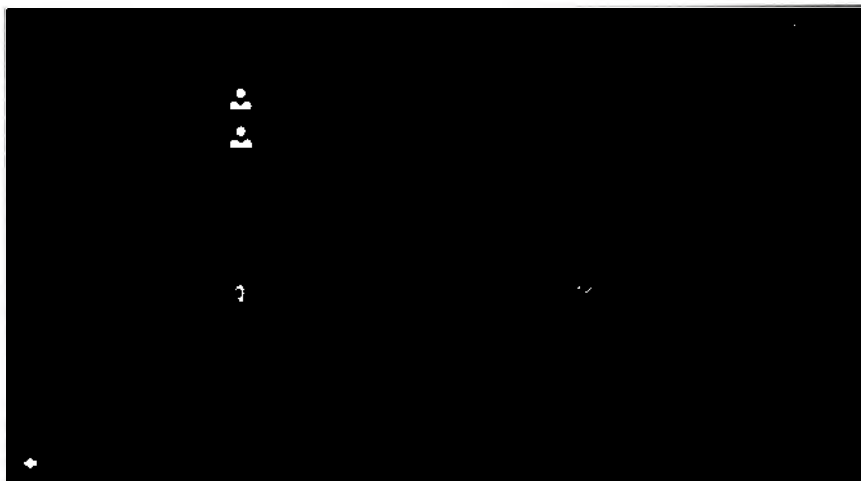

Fig. 98: 'Measurements' dialog box
4. ➔ To view patient data, click the patient name once in the 'Patients' dialog box (Fig. 98).